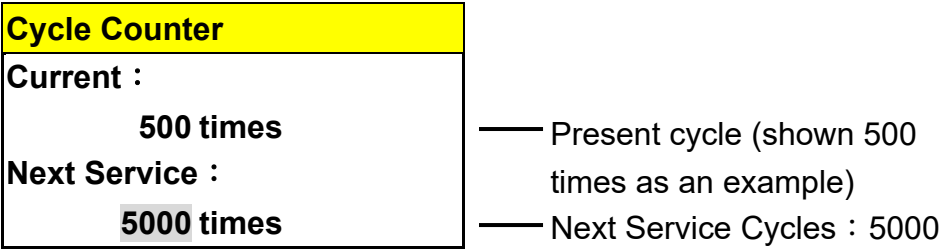

Figure 144
B. Press  button to the editing mode as shown in Figure 144.